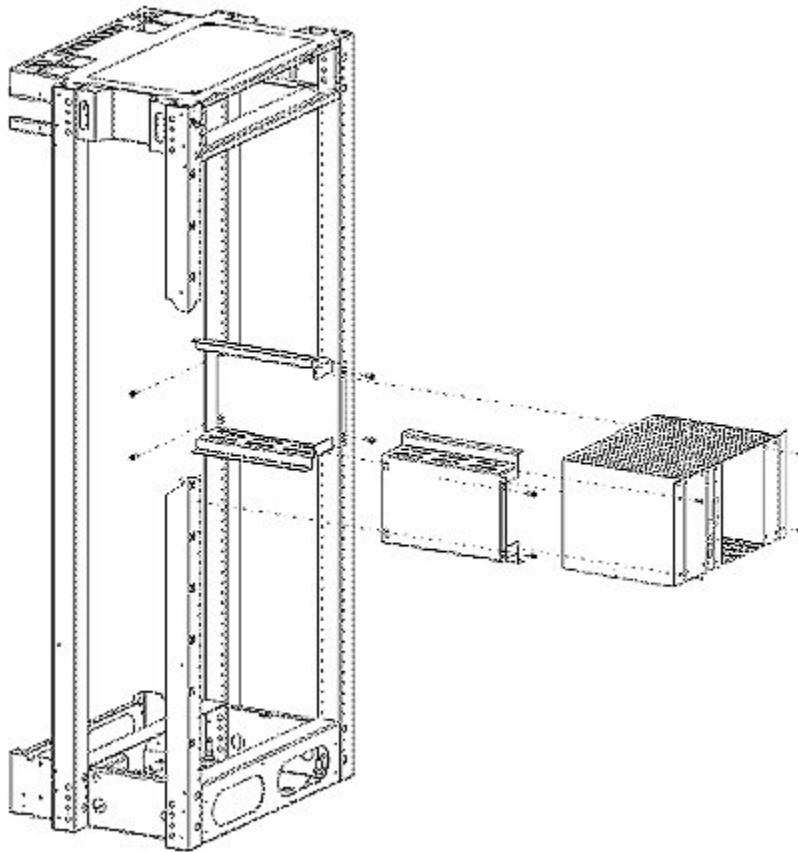

Fig. 3
The NTTU is housed in a 5ESS Switch Miscellaneous (M) Cabinet (*Fig. 3*).